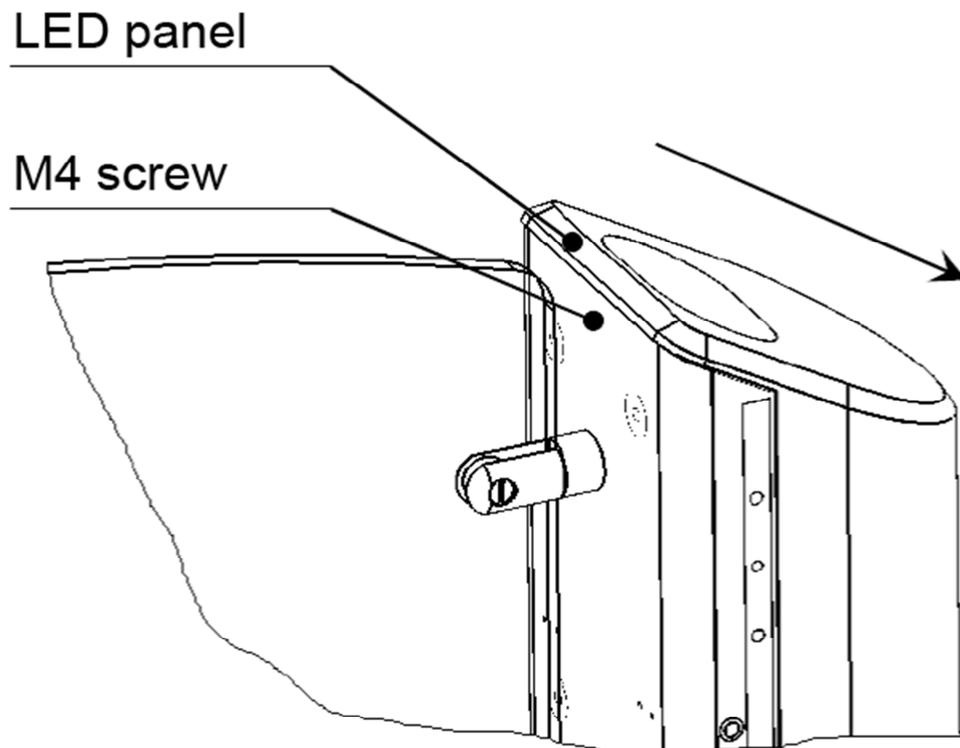

Fig. 14
6.5.1. Undo the M4 screw (1, Fig. 6) at the rear of the card collector (Fig. 14).
6.5.2. Slide the LED panel to the stop in the direction indicated in Fig. 14. Carefully lift the panel.